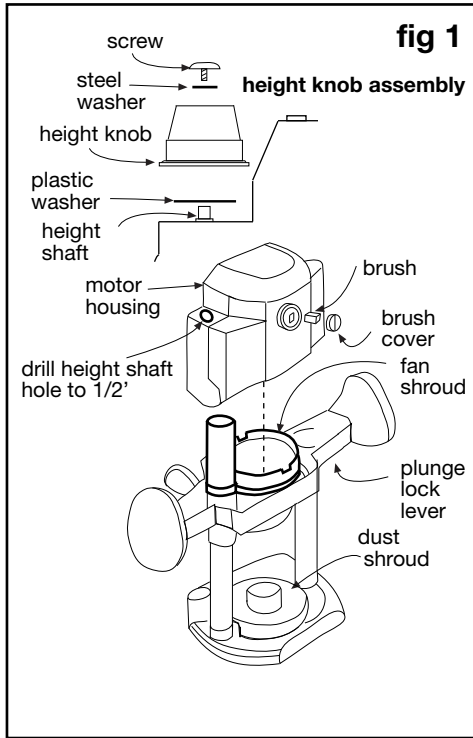

fig 1
Using fig 1 support router upside down on bench and place locating pin into bottom of #1 mainshaft head. Secure subbase to router base gently tightening screws. Using a hammer gently tap the subbase over the pin. Remove subbase and drill hole on center punch mark using the Router Raizer template instructions.
- Using (fig 1) select #30 dust cover insert (1/2" dia, X 3/16" tall, turned aluminum ring) and #31 dust cover (3/8" dia. X 1/8" thick stamped steel plug) From top of insert plate, press #30 cover insert into the 1/2" Router Raizer access hole until flush.
- 1. Removing dust cover:** Using (fig 1) place #29 speed wrench over #31 dust cover, lift speed-wrench to remove dust cover. Leave dust cover on wrench while making height adjustments.
1. Remove height knob assembly (fig 1). Remove both brush covers (fig 1) remove brushes one at a time, labeling the top and side of router removed from on each brush.
- Using (fig 1). Unplug router from power source, place power switch in the on position and secure switch with a nylon tie strap or wrap handle and switch with tape. This step retains the switch mechanism during separation and installation.
- Remove height knob assembly (fig 1). Remove both brush covers (fig 1) remove brushes one at a time, labeling the top and side of router removed from on each brush.